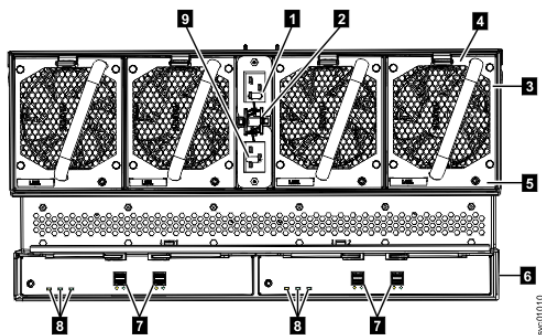
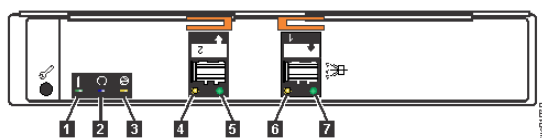

Figure 196. LEDs on the back of the expansion enclosure
Figure 197. LEDs on the back of the expansion canister
Table 78 on page 247 explains the function and status that is indicated by each of the LEDs. The power cords for each PSU are accessible from the rear of the expansion enclosure (1), as shown in Figure 196 on page 249.
Figure 196 on page 249 shows the rear view of a expansion enclosure. LEDs on the rear of the enclosure provide information about each fan module, each expansion canister, and SAS links.
The expansion enclosure has four fans. Each fan has one LED; for example, Figure 196 on page 249 shows the location of the LED (5) for fan number four. When a fan is operating normally, the LED is not lit. If a fault is detected, the amber LED is lit.
As Figure 196 on page 249 also shows, the expansion enclosure contains two expansion canisters. Each expansion canister contains its own set of LEDs, as shown in Figure 197 on page 249. The LEDs provide status information about the expansion canister itself and the SAS connections.